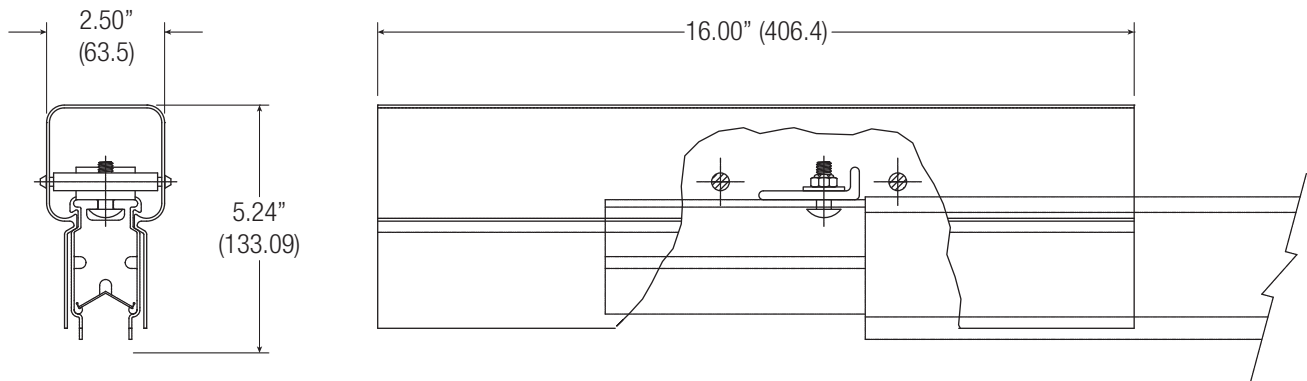

Figure 16-2
- A reference drawing of a high heat cover is shown in **Figure 16-2**.